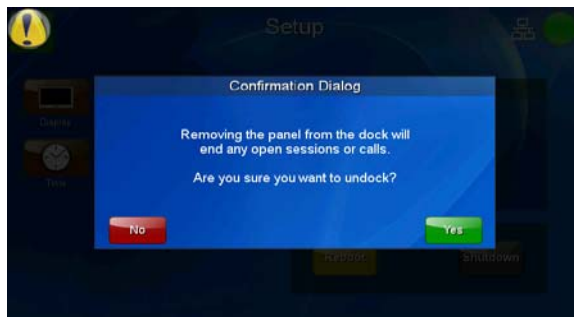

FIG. 17 Undocking confirmation dialog window
3. If the MVP-9000i was conducting a SIP call or Dynamo session at this time, a confirmation dialog window appears to warn that any open sessions or calls will end (FIG. 17).